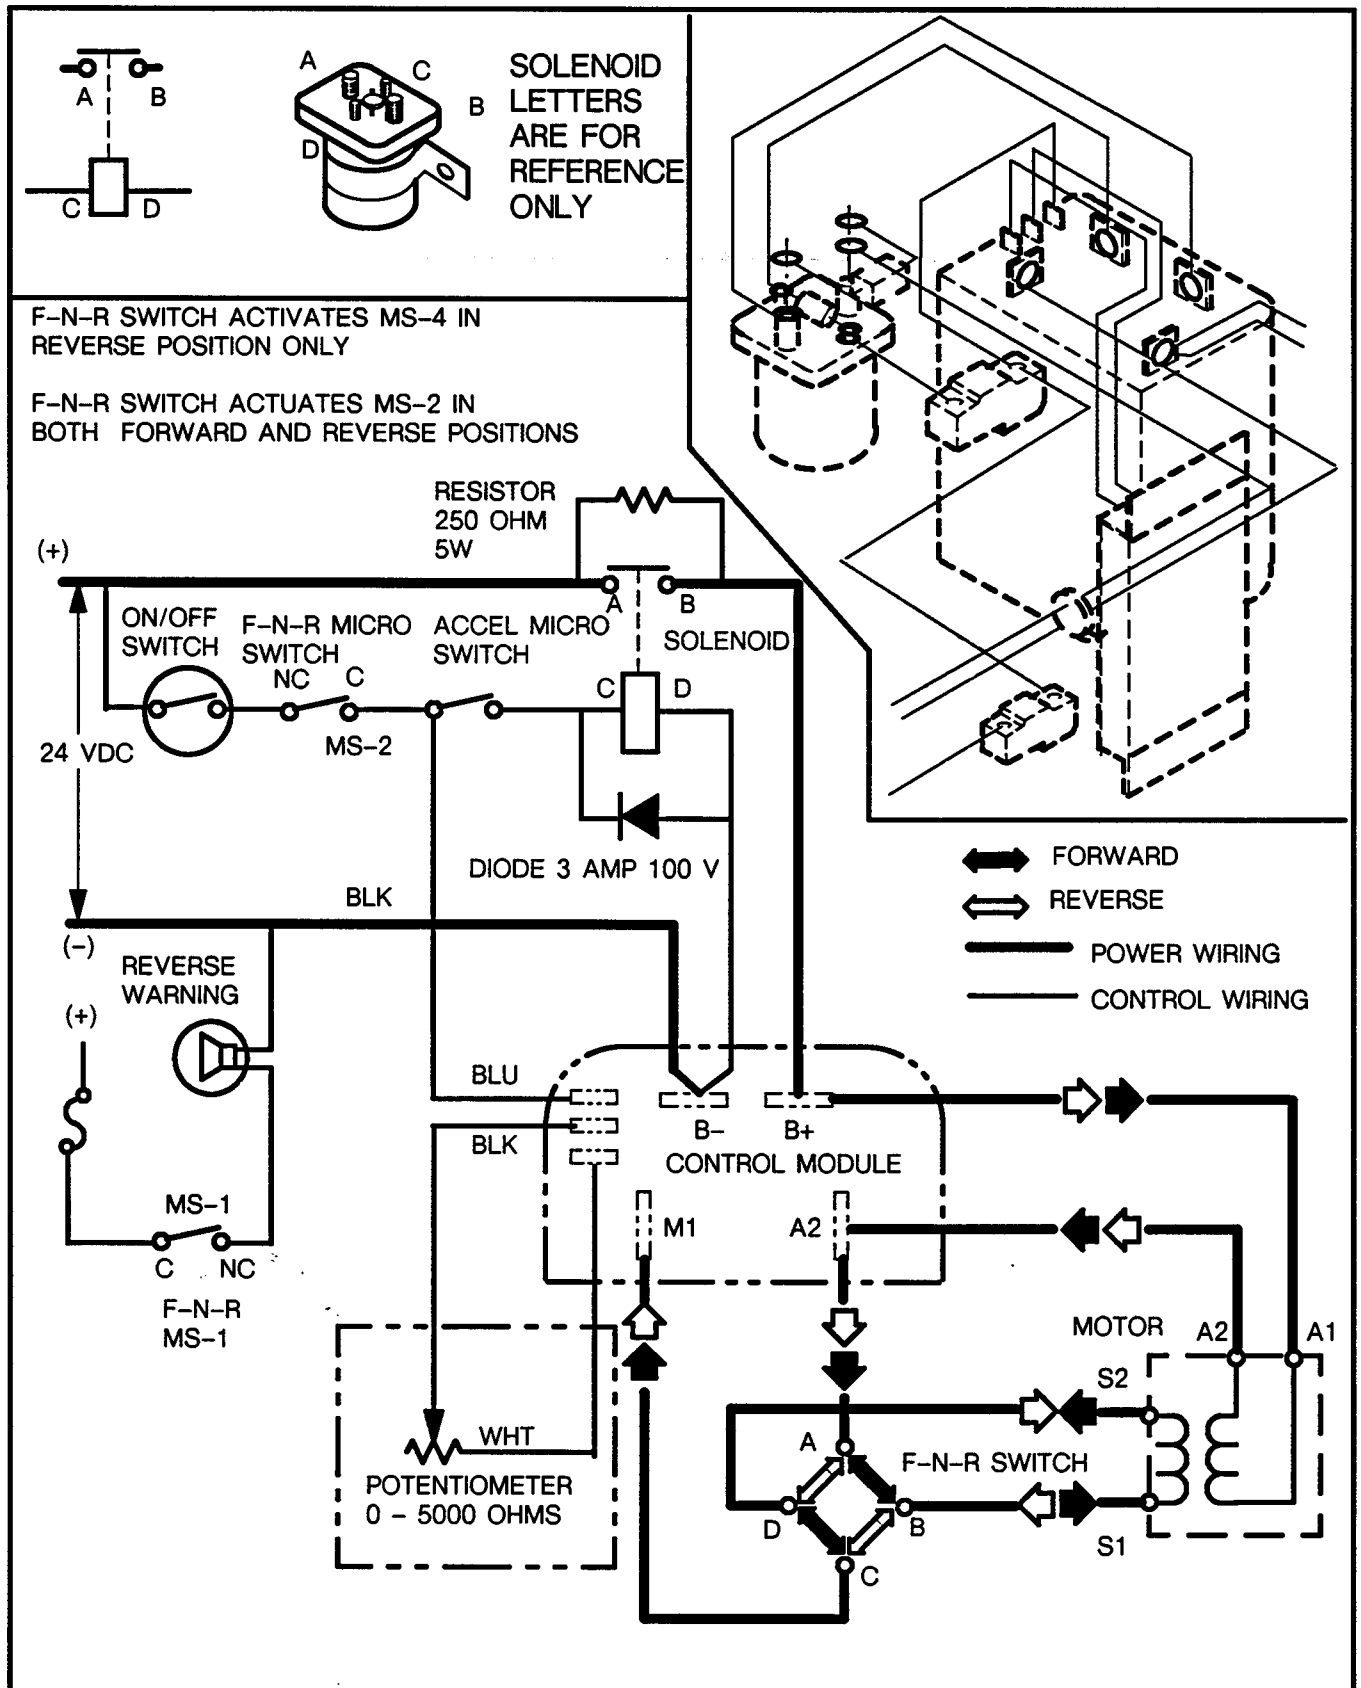
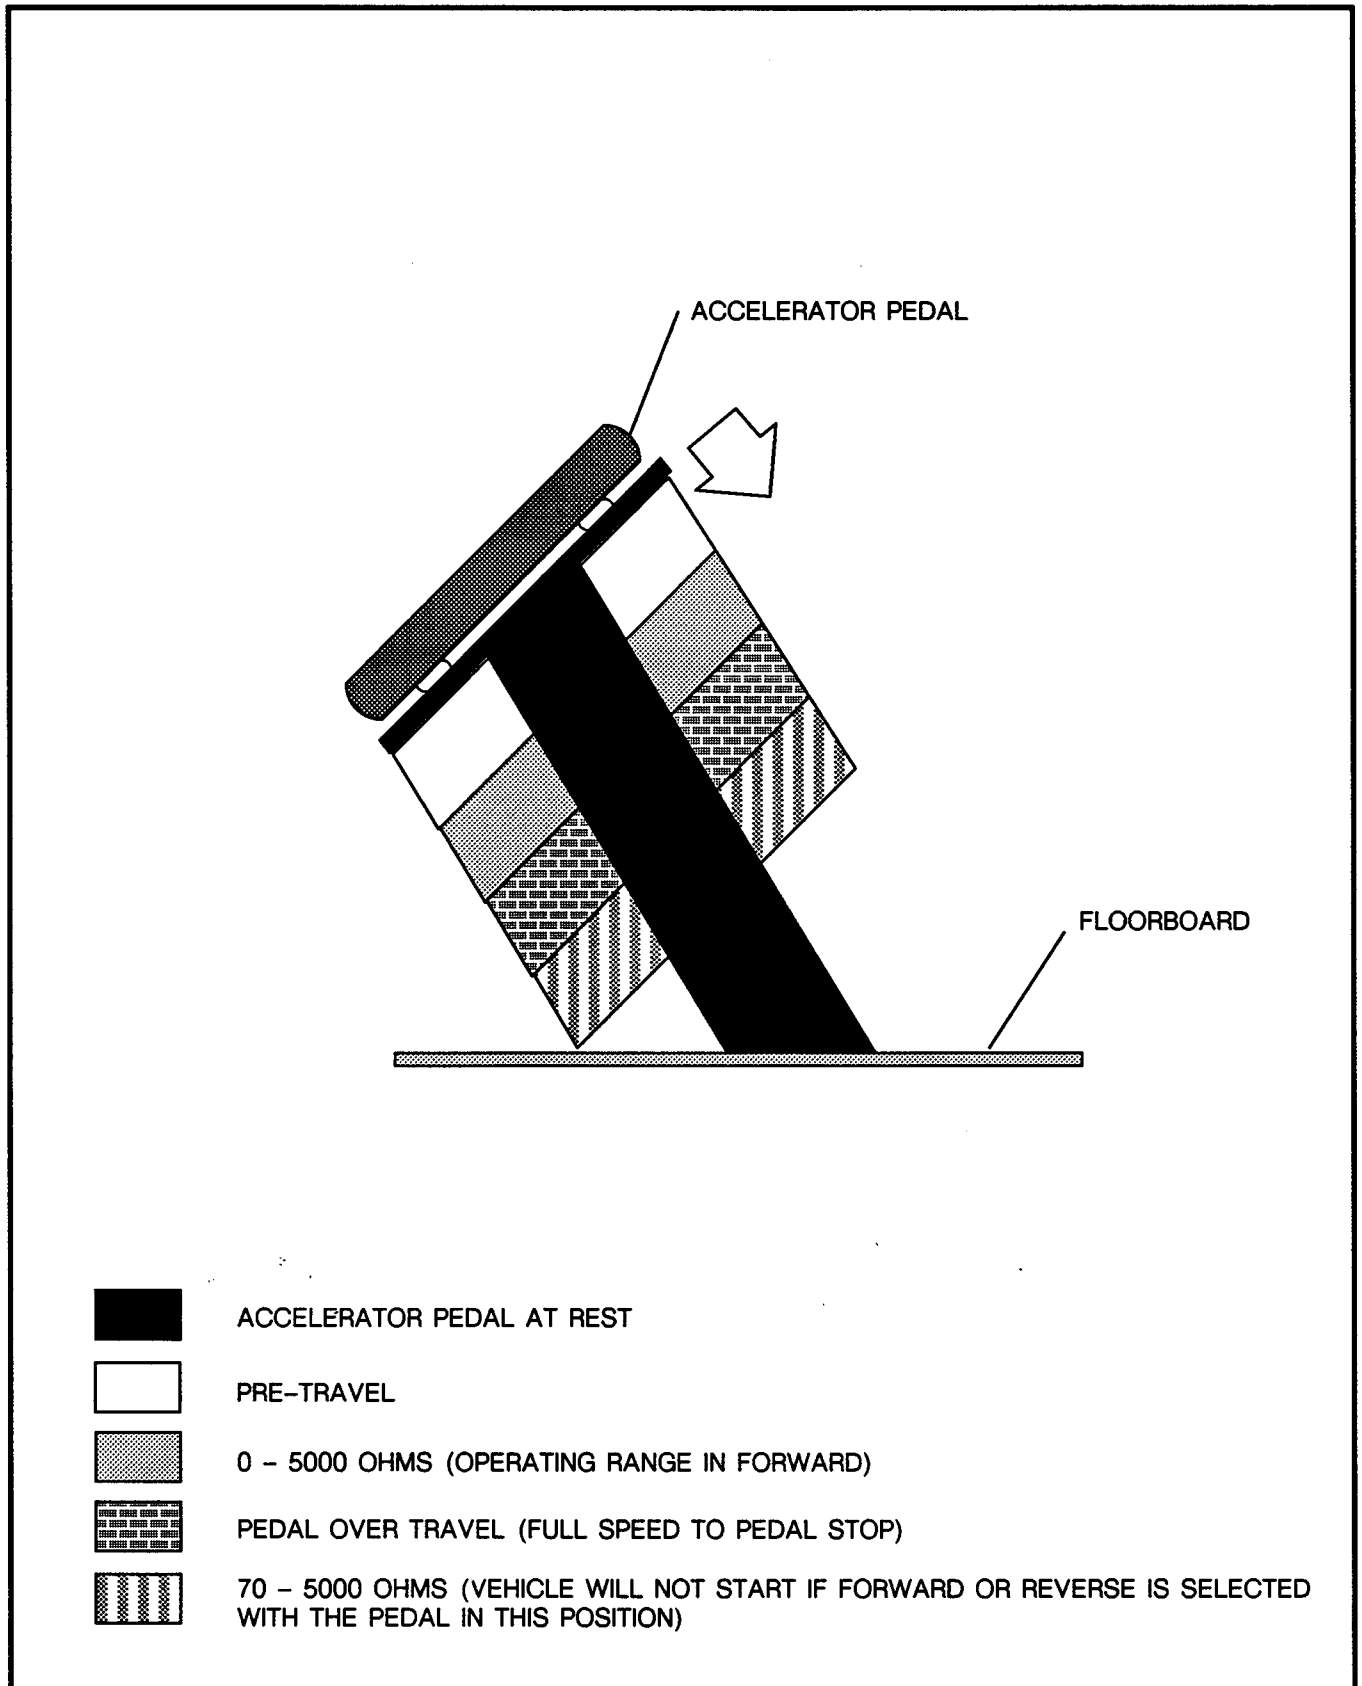
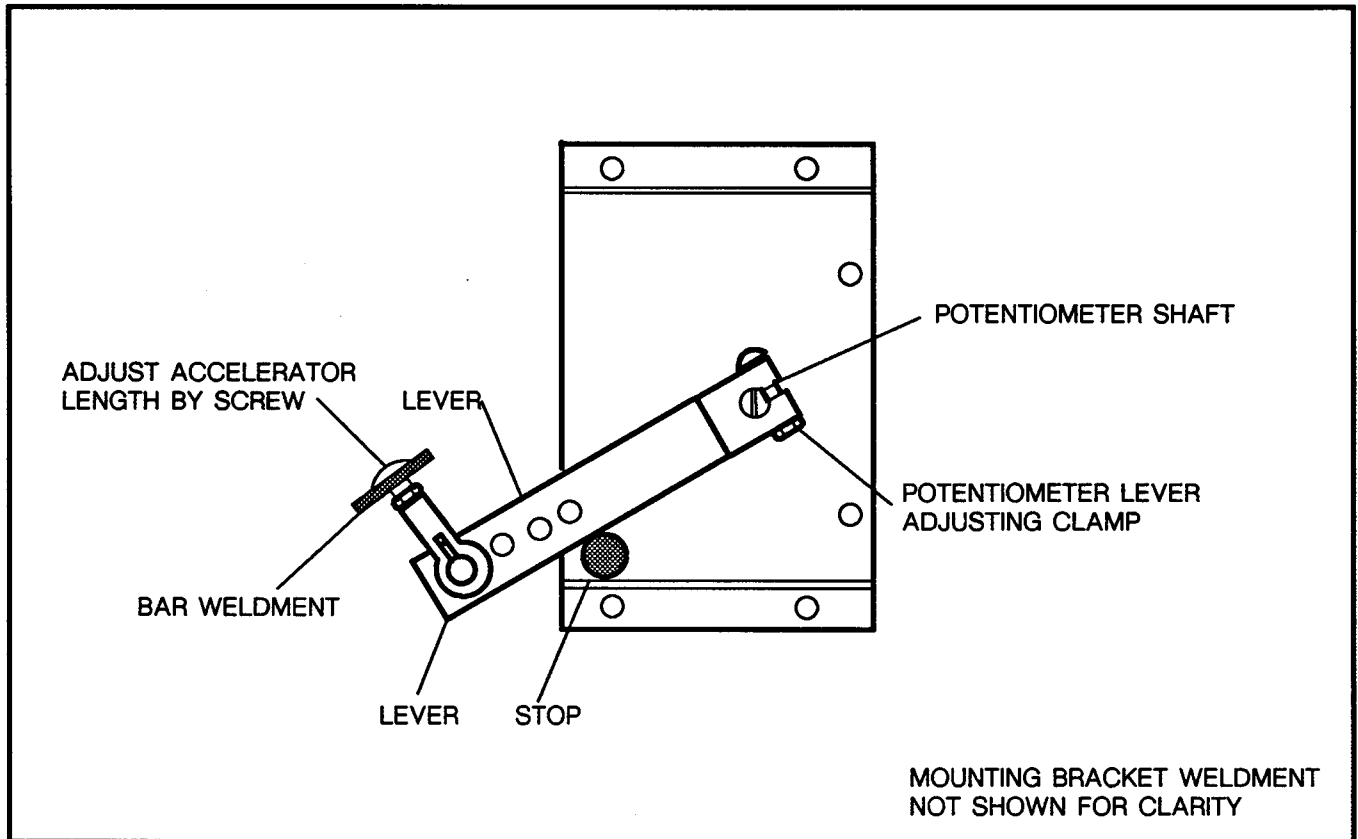
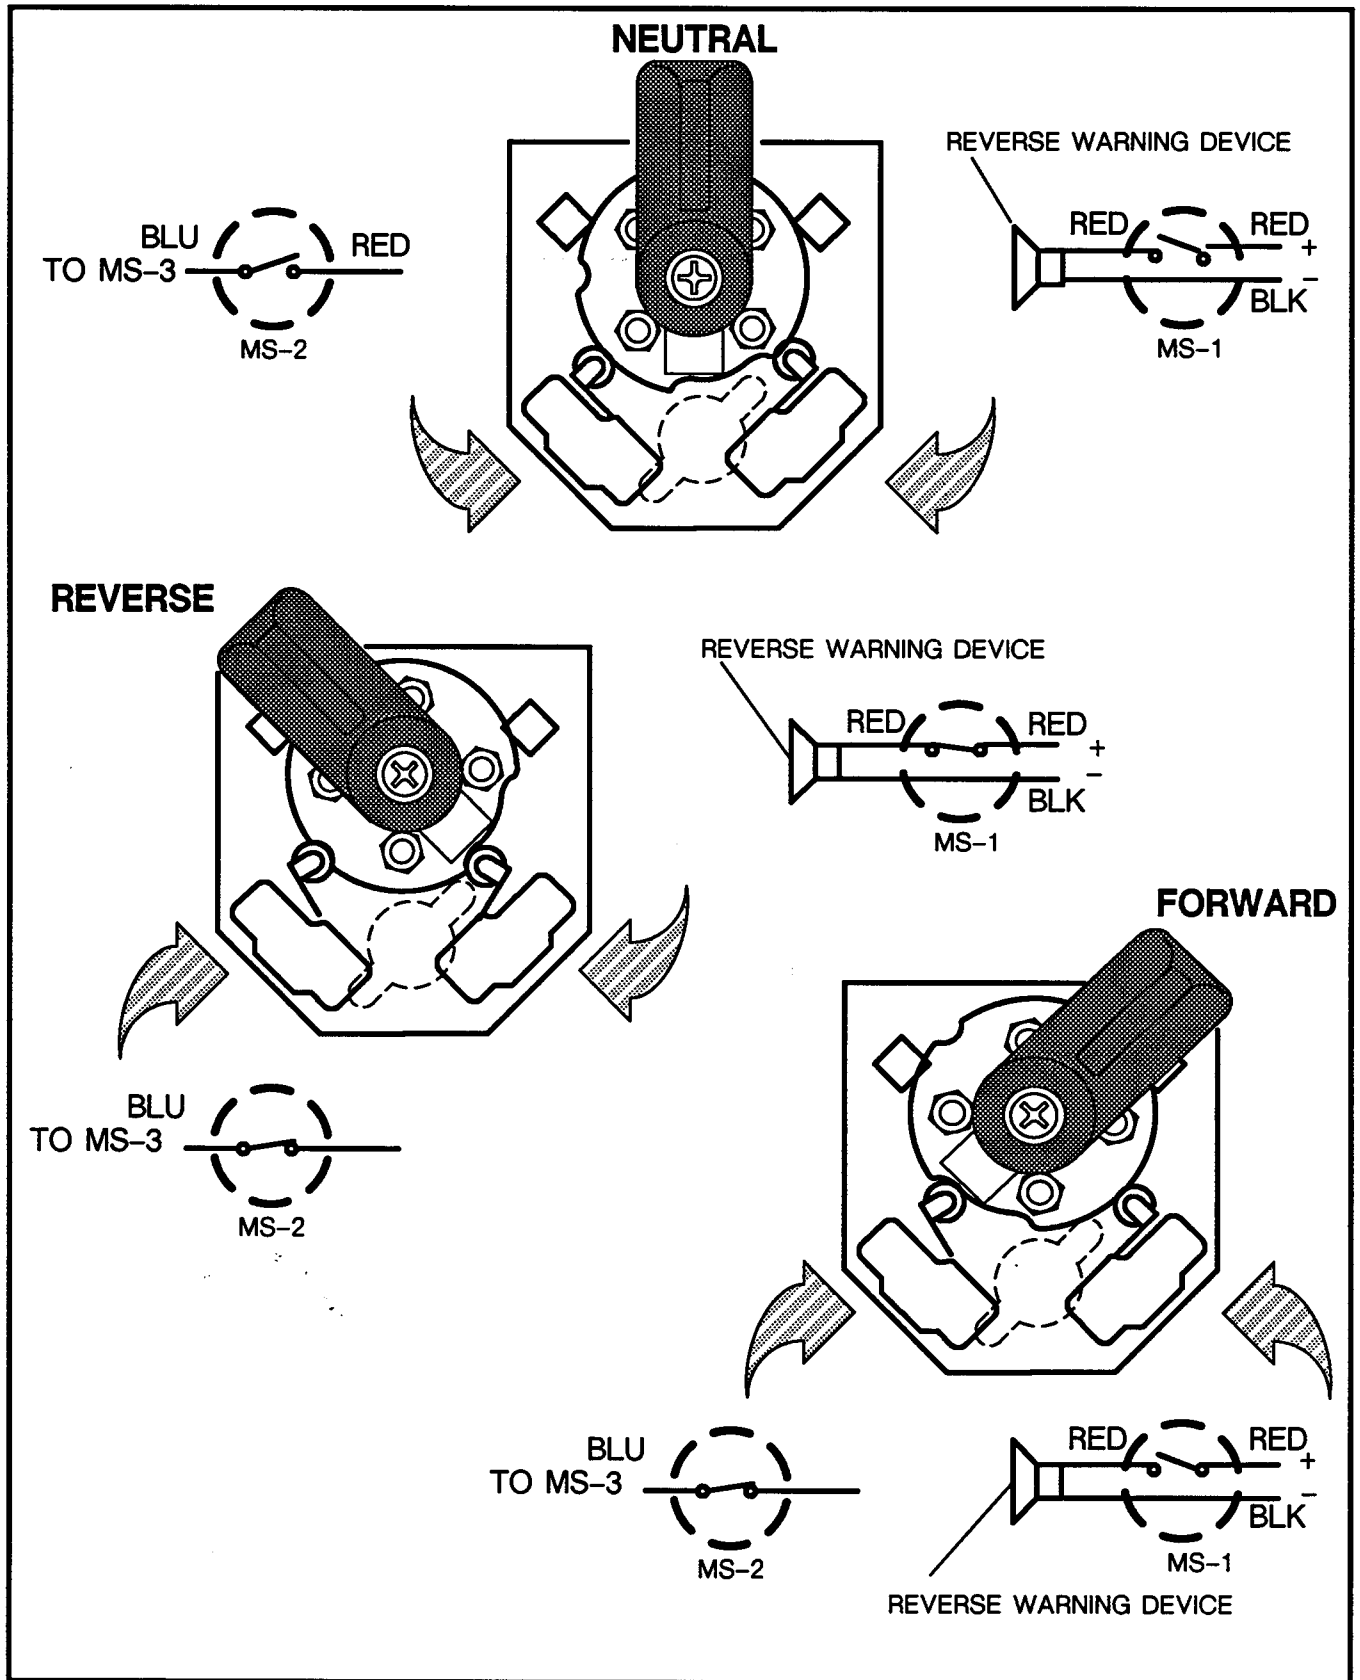

FIG. 17 WIRING DIAGRAM
FIG. 18 ACCELERATOR POSITIONS
FIG. 21 ACCELERATOR ADJUSTMENTS
FIG. 22 F-N-R MICRO SWITCHES AND REVERSE WARNING DEVICE
GENERAL (FIG. 17)
HIGH PEDAL PROTECTION (FIG. 18)
TROUBLE-SHOOTING VEHICLE WIRING (FIG. 19), (FIG. 20), (FIG. 22)
TROUBLE-SHOOTING SOLID STATE SPEED CONTROLLER (FIG. 17), (FIG. 21), (FIG. 22)
TROUBLE-SHOOTING (FIG. 17), (FIG. 18), (FIG. 21), (FIG. 22)
2. Examine all of the wiring to assure that all wires are without physical damage or corrosion. Check the routing of all wiring and the tightness of each connection. Repair or replace any suspect wires or connections. (FIG. 22)
3. Inspect the male 'push on' contacts at the control unit and be sure that they and the areas around them are free of corrosion. (FIG. 17)
7. At the control unit remove, the two wires with female 'push on' connectors coming from the potentiometer. With the VOM adjusted to the correct Ohms scale attach each probe to the two wires from the potentiometer. With the accelerator pedal in the released position the meter must indicate '0' ohms and continue to indicate '0' through at least 1/2" of downward pedal movement. Slowly depress the accelerator pedal and observe the meter. The meter should rise smoothly to $4.75\text{ K} \pm 250$ ohms. When the meter indicates $4.75\text{ K} \pm 250$ ohms the pedal should not be fully depressed. (Approximately 1/4" of pedal travel should remain after the $4.75\text{ K} \pm 250$ ohm reading). If correct readings are not achieved, check the potentiometers activating linkage. With the accelerator in the released position insert a spacer (dime) between the arm and the top stop. The potentiometer activating lever should just retain the dime (FIG. 21). Should the potentiometer activating lever not properly contact the top stop, remove the connecting linkage and adjust by lengthening or shortening the linkage (FIG. 21). With the accelerator in the released position the potentiometer activating lever should just contact the upper stop with a spacer (dime) installed.